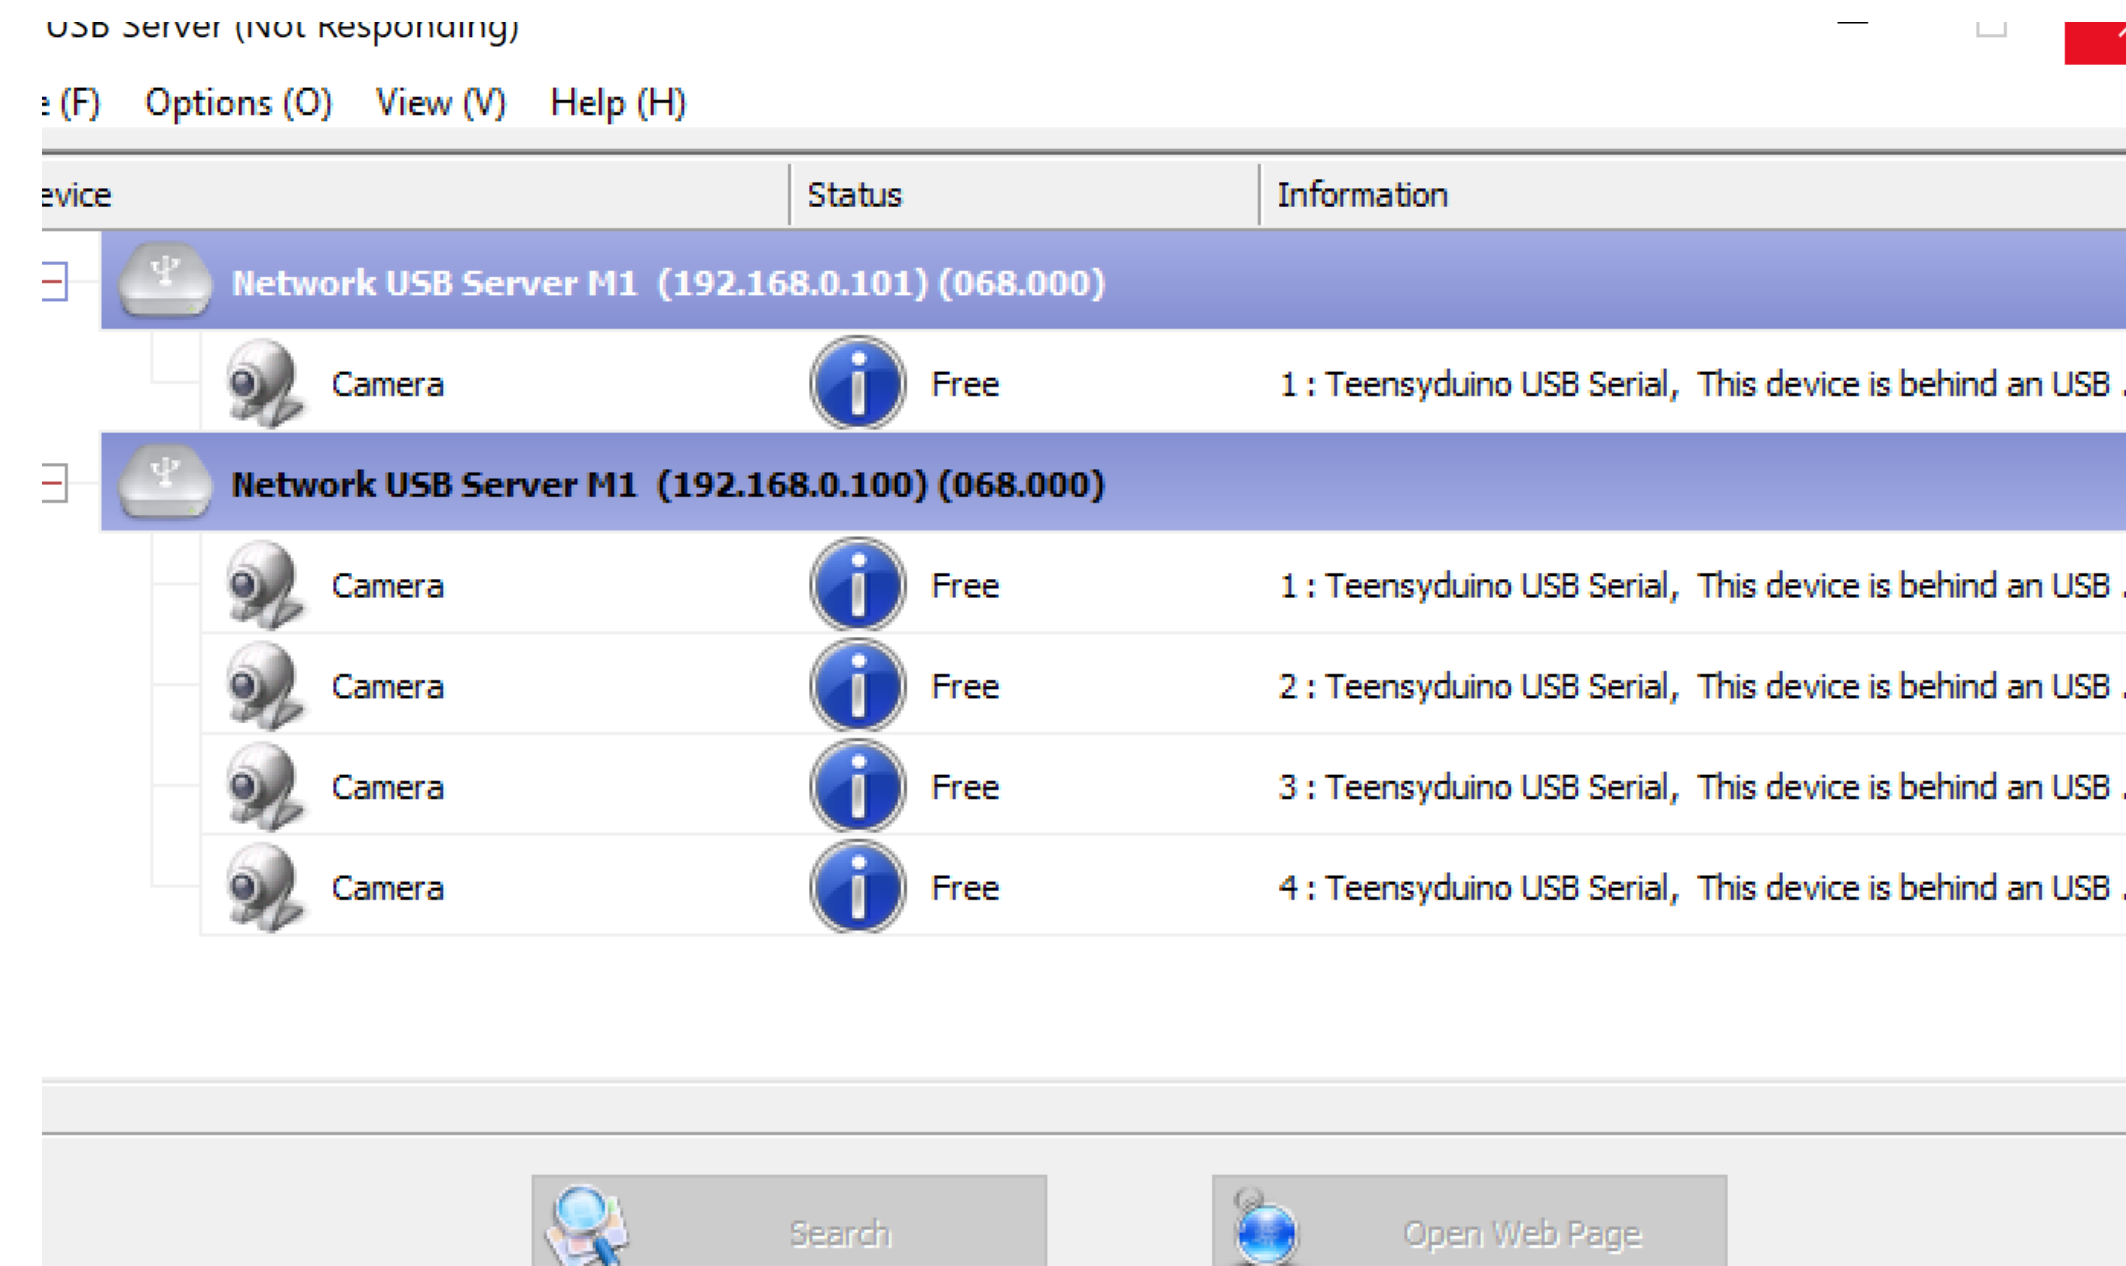

Figure 5-1 USB server software making connections with the X3 remote sensing unit.
- Our first task is to switch on the remote sensor and control device to initiate the startup process. On the control unit you will see a standard Windows 10 startup screen and then the desktop. The network connection software will load while the X3 control software is loading in the background as shown in *figure 5-1*. This will remain visible until all connections are made and then the USB server software will move to the background.